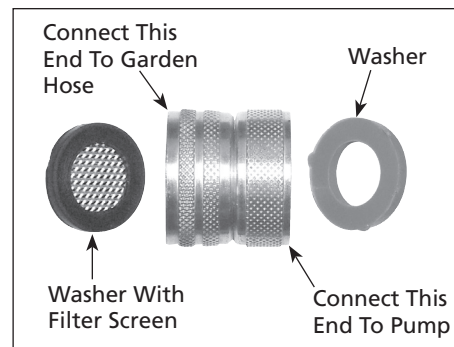
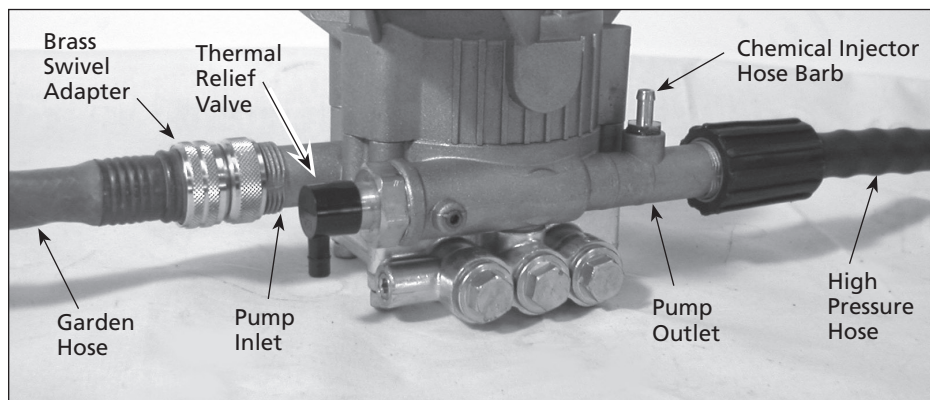
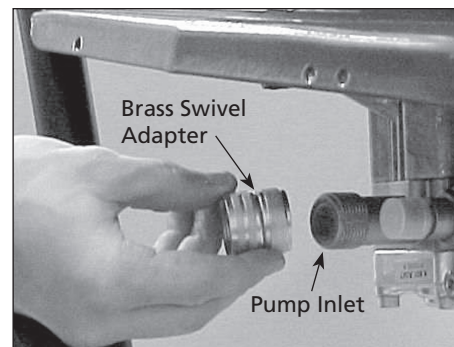

Figure 3 - Brass swivel adaptor
Figure 2 - Pump hook up
Figure 4 - Connect the brass swivel to the pump
1. Attach clear plastic tube to barb on pump (see Figure 2 on page 5).
2. **Brass Swivel Adaptor** (See Figure 2). If it's not already attached to the pump inlet, assemble the brass swivel adaptor and attach it to the pump inlet (See Figure 3 and Figure 4). Be sure to connect the correct side of the brass swivel adaptor to the pump.
4. Connect the high pressure hose to the pump outlet (See Figures 2 and 5).